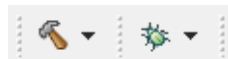

Figure 3: *Code Composer Studio* build and debug buttons
5. Build the project in *Code Composer Studio* by clicking **Project** → **Build all** or by clicking on the **Hammer** symbol as seen in Figure 3 at the top of the screen. Check for errors while building in the console at the bottom of the screen.
6. If your target is connected to the computer click **Run** → **Debug** or click on the *Bug* symbol as seen in Figure 3 at the top. The program is now transferred to the target and can be started with the **green arrow** button at the top.